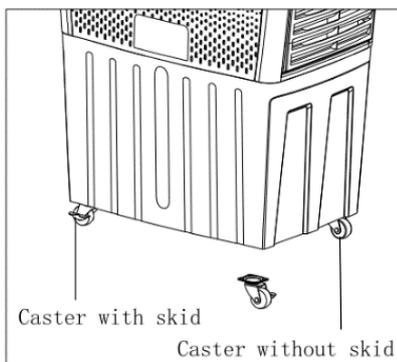

fig.1
**Note: Casters with skid are for the two front holes and casters without skid are for the two back holes at the bottom of the unit.(shown as fig.1)**